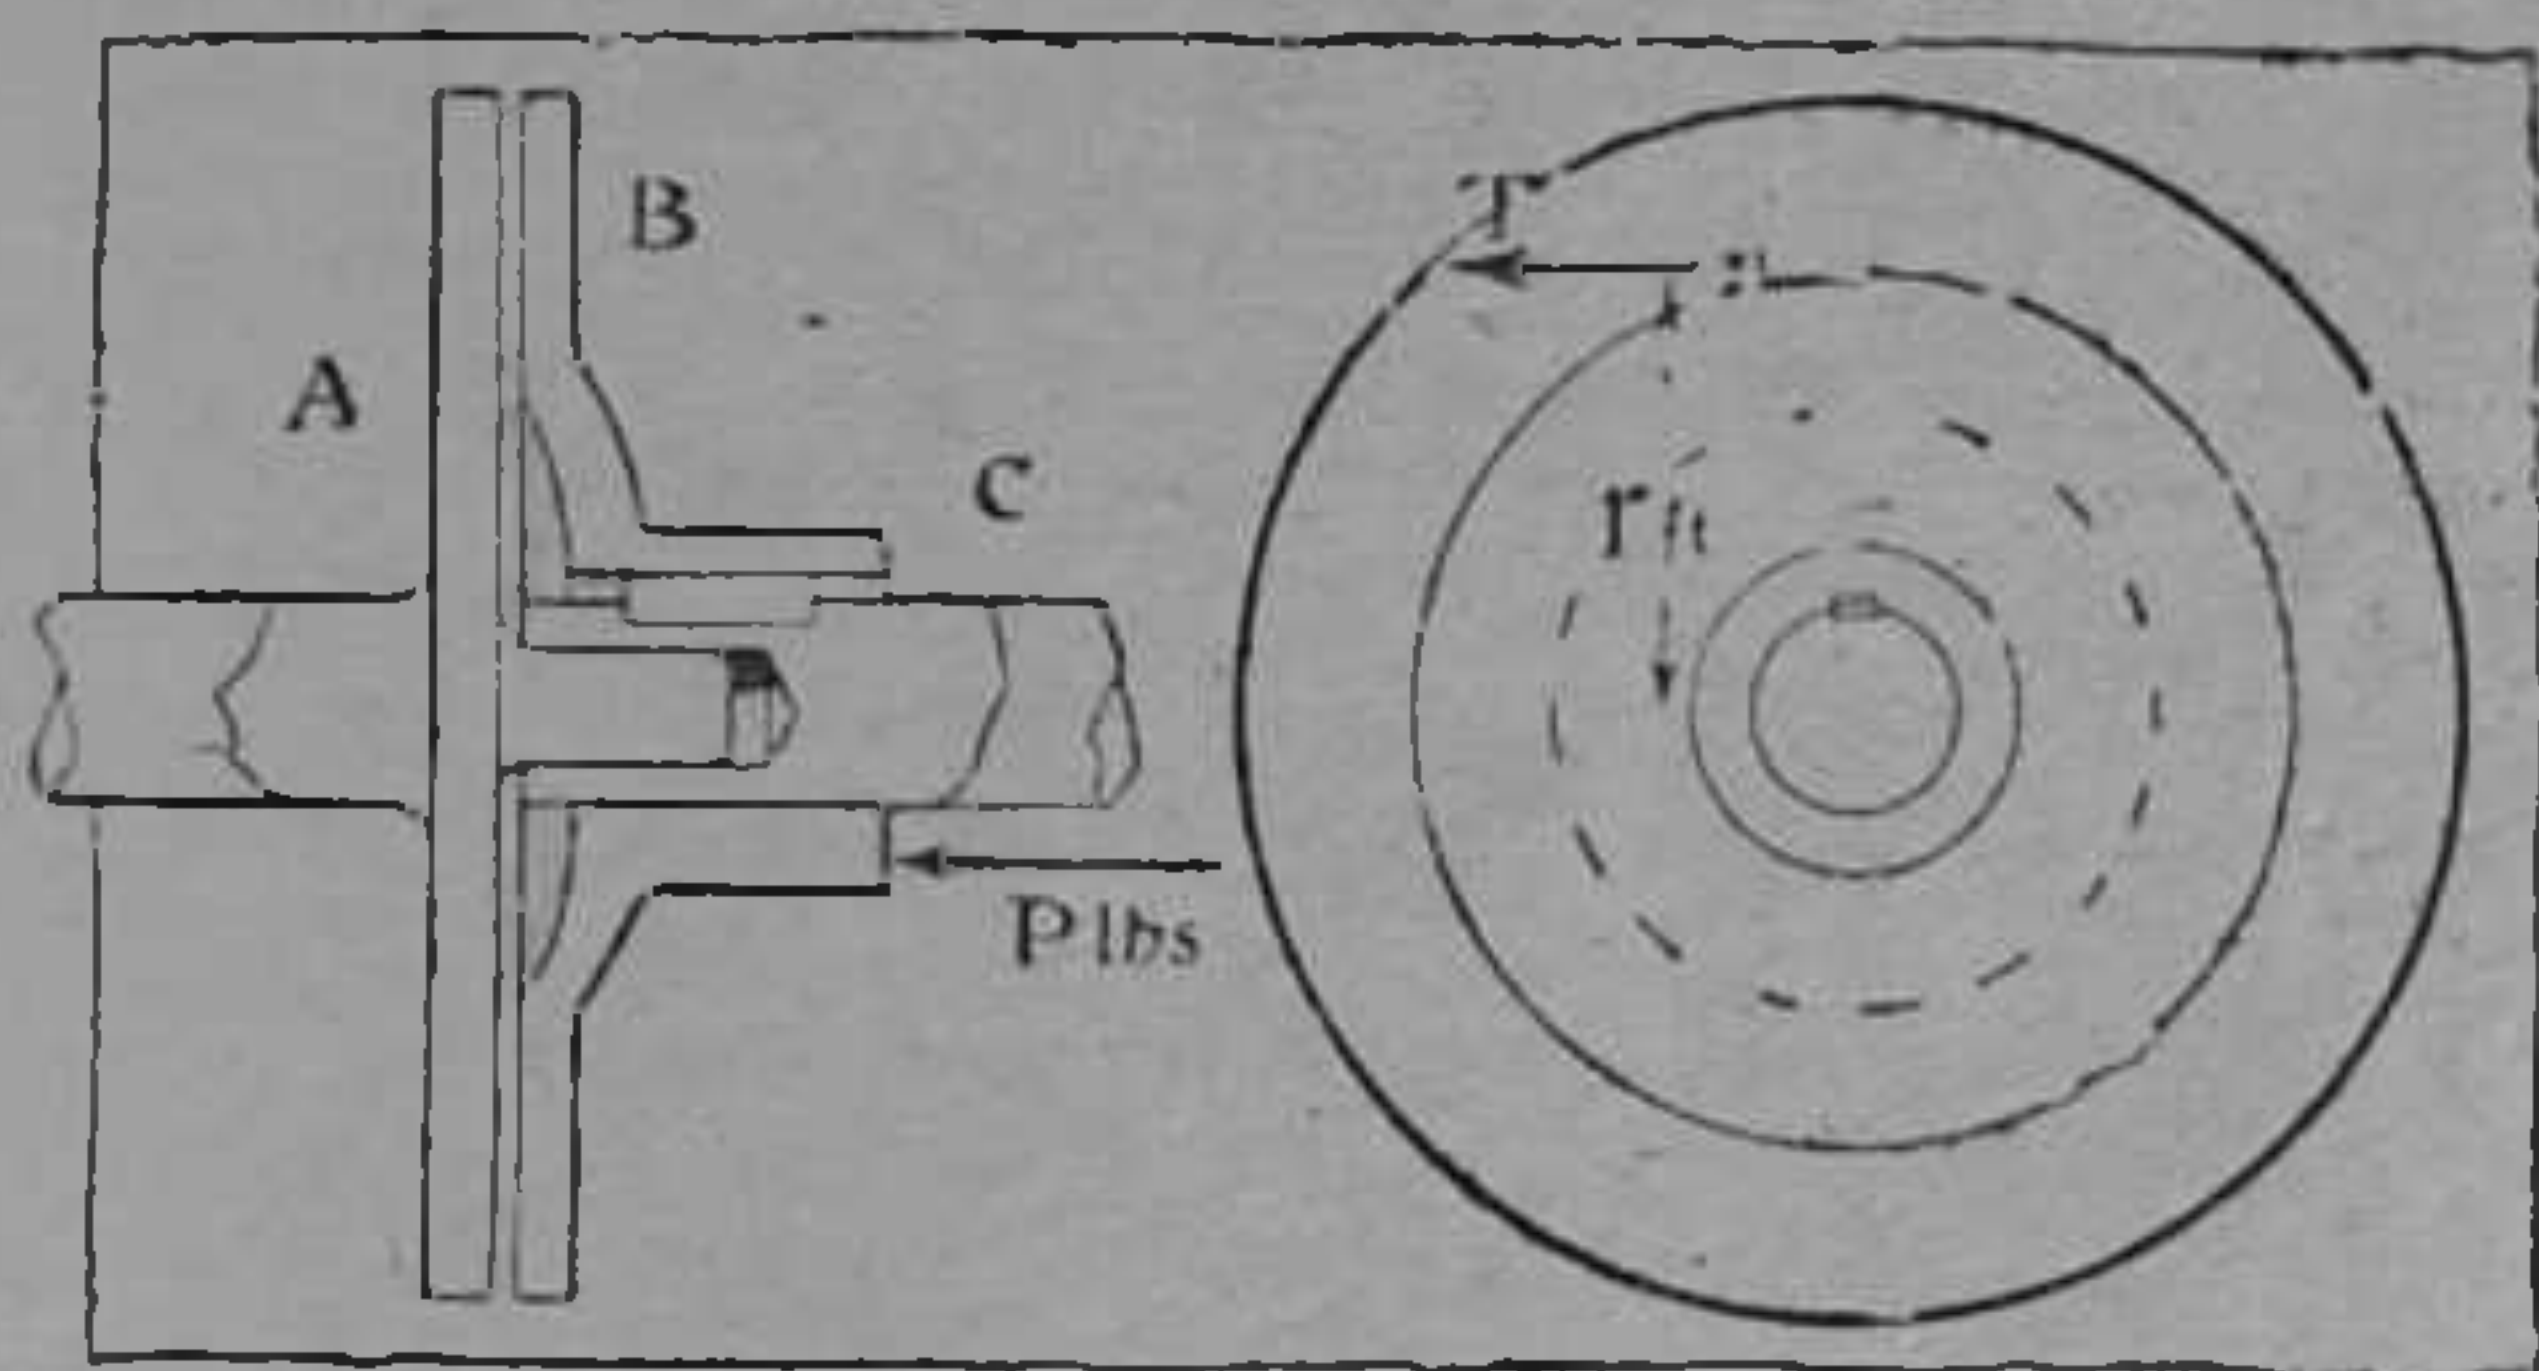
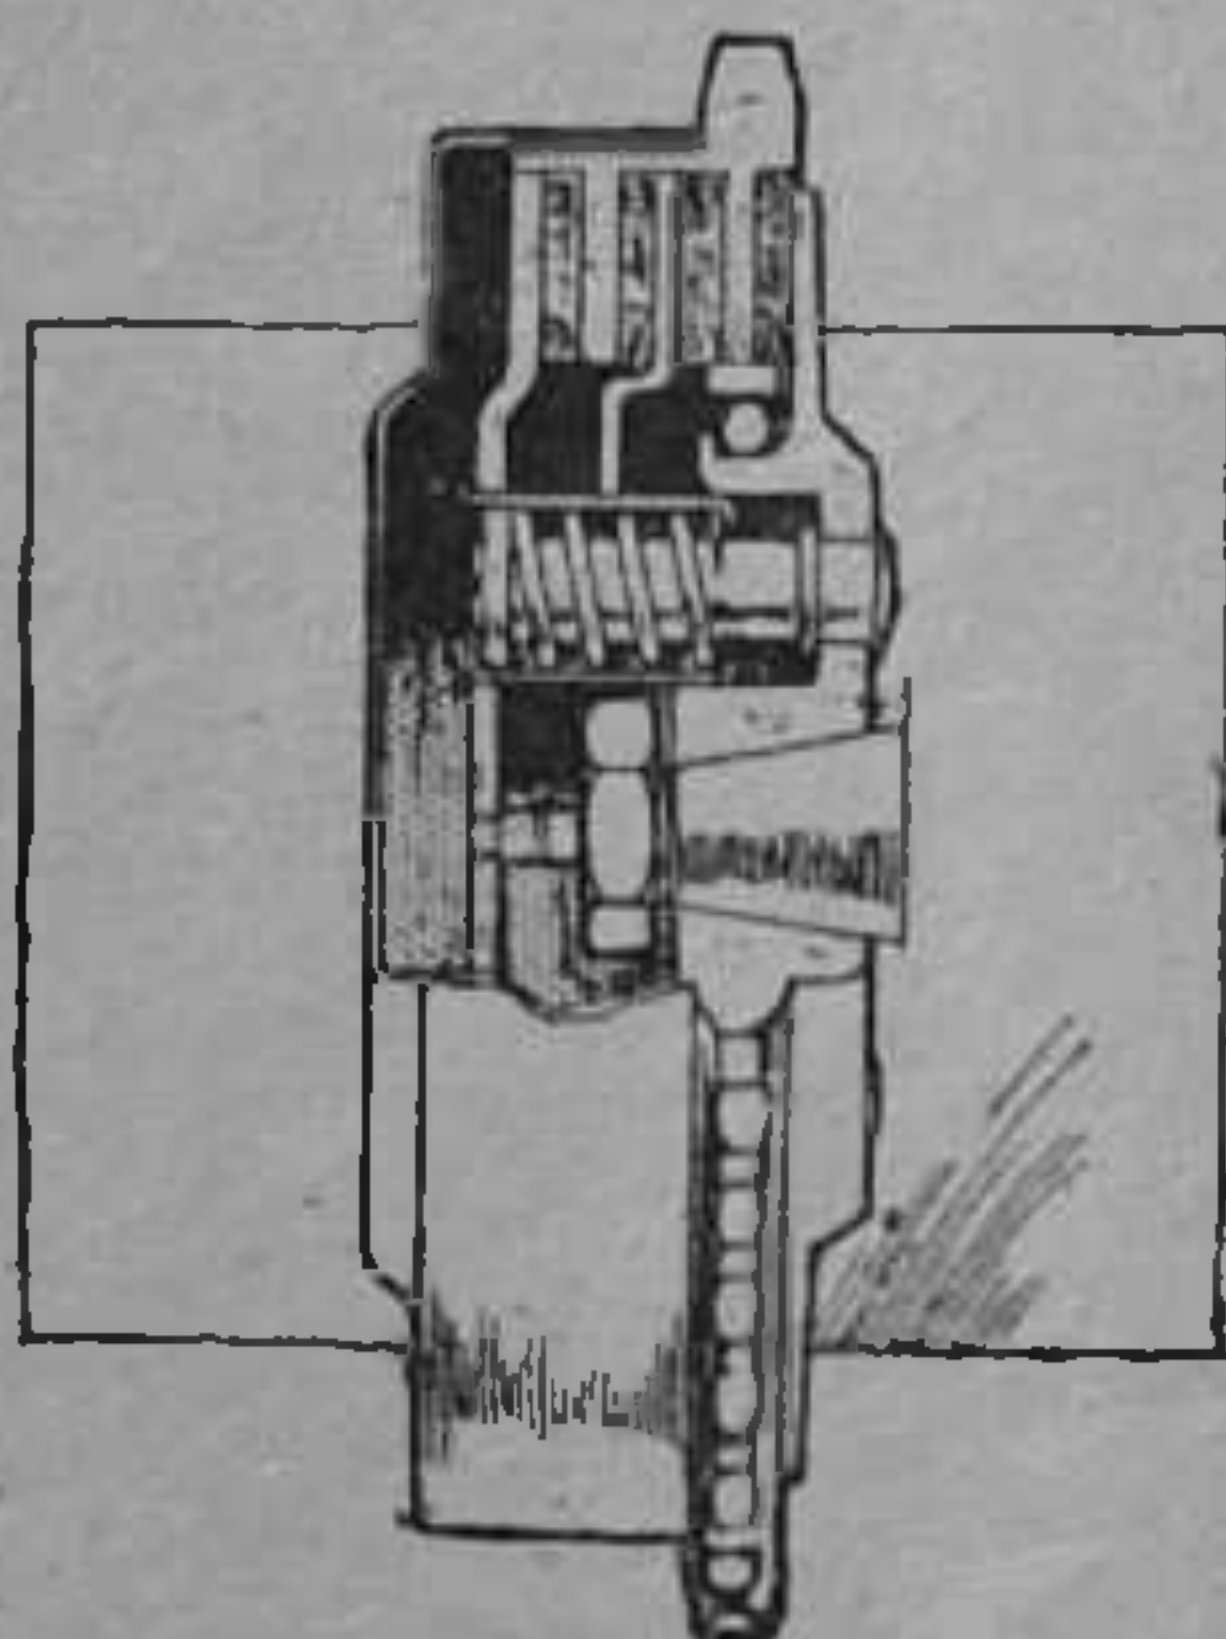

Fig. 1.—The simplest form of clutch.
Fig. 3.—A representative type of plate clutch.
plates or discs, as shown in Fig. 1, where A is fixed to the engine shaft and B is free to slide on the shaft (C), but must rotate with it, shaft (C) driving the rear wheel, either by belt, chain, or cardan shaft as the case may be. Now if the plates are pressed together so tightly that a frictional force of T lbs. is produced at the mean radius (R feet) of the frictional surfaces in contact, and the shaft (A) is running at N revolutions per minute, this elementary clutch will transmit
in relation to it. The spring pressure (P) now acts on the outside of D, and forces it inwards, so nipping the driven plate (B) between it and A. As the pressure (P) now acts on two surfaces—namely, that between A and B and that between B and D—the force (T) will be twice what it was previously, so that the clutch will transmit twice the horse-power of the simple clutch considered in Fig. 1 with the same spring pressure and at the same speed. It is obvious that the process of adding friction surfaces in this manner can be continued indefinitely, and at each addition the clutch will be able to transmit more horse-power, or alternatively can be made smaller for the same power. This is the process which has produced the familiar multi-plate clutch shown diagrammatically in Fig. 3. The most familiar type of all in car practice is the cone clutch, but it has practically disappeared from the motorcycle world, the only sample at present being that fitted to the Zenith countershaft model. The arrangement shown diagrammatically in Fig. 4 is probably familiar to all motorcyclists. More power can be transmitted by this type than by a simple clutch like Fig. 1 of the same diameter, owing to the wedge action due to the contact surfaces being at an angle to the axis. A cone clutch is, however, always on the bulky side, and cannot be made as light as would be desirable for a motorcycle.